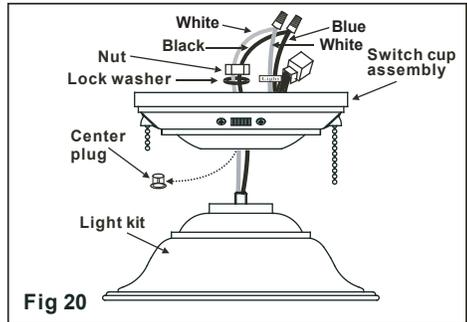

Fig 20
**Step 1.** Remove and discard the center plug from the switch cup. (Fig. 20)
**Step 2.** Feed the BLACK and WHITE wires from the light kit through the center hole of the switch cup. Thread the switch cup to the nipple on the light kit. (Fig. 20)
**Step 4.** Locate the WHITE and BLUE wires in the switch cup labeled "LIGHT", remove the wire nuts attached to these wires. (Fig. 20)
**Step 5.** Proceed to make the wire connections as follows; Connect the WHITE wire from the switch cup to the WHITE wire from the light kit, secure the connection with a wire nut previously removed. Follow the same procedure for the BLUE wire from switch cup and BLACK wire from light kit. You may wrap the connections with electrical tape for added safety. (Fig. 20)